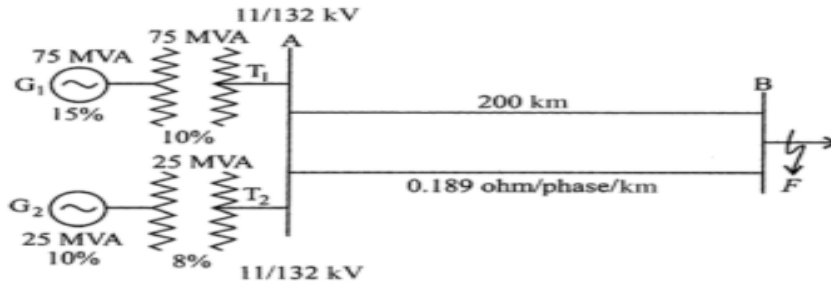

Fig. 3
6. A power station with two generators feeds a transmission system operating at 132 kV through transformers as shown in Fig. 3. The far end of the transmission system consisting of 200 km long double-circuit line is connected to load from bus B. If a three-phase fault occurs at bus B, determine the total fault current supplied by each generator. Select 75 MVA and 11 kV on the LV side and 132 kV on the HV side as the base values. 14M